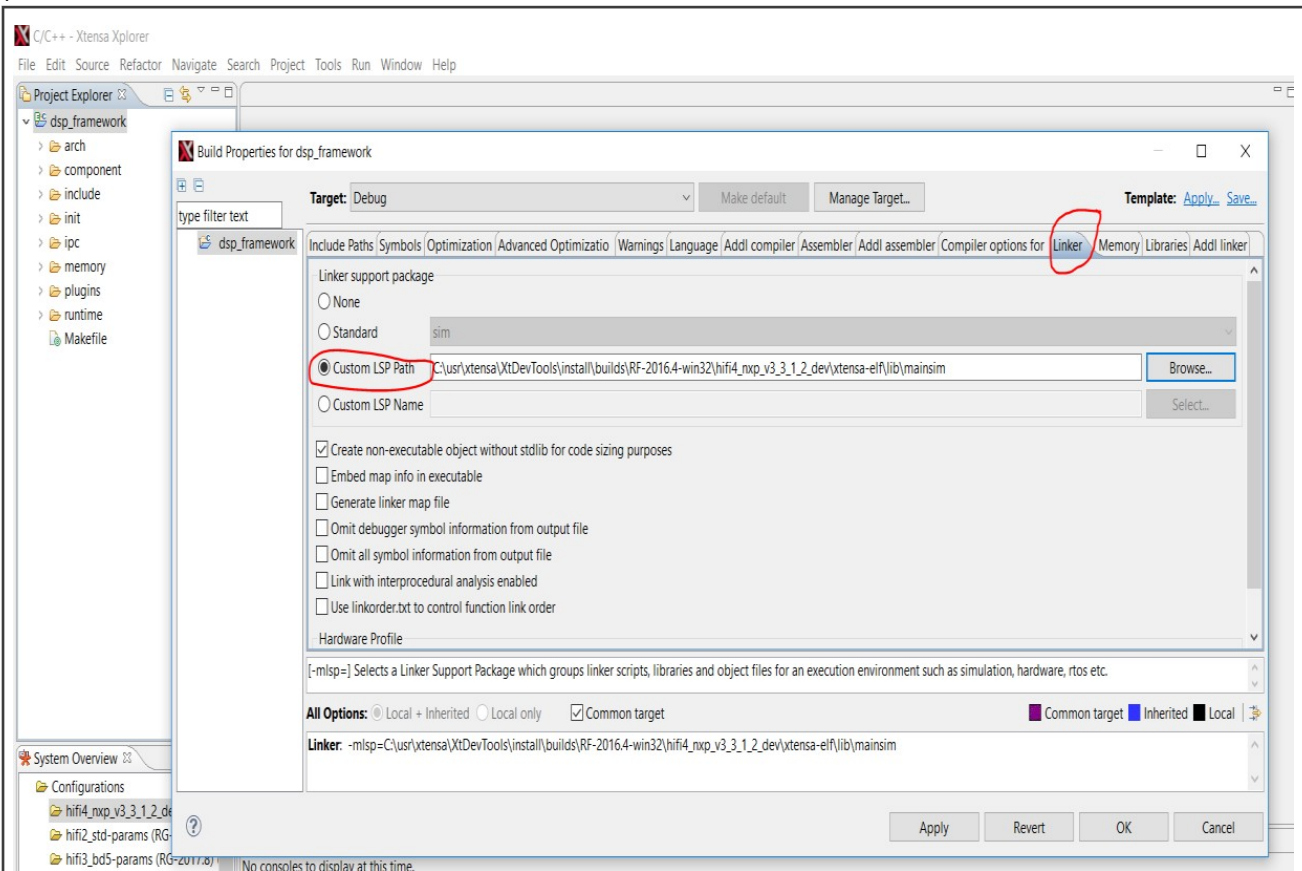

Figure 10. “Linker” option
- Click the “Linker” option and configure the custom LSP path as shown in Figure 10 Click the “OK” button to finish this process.